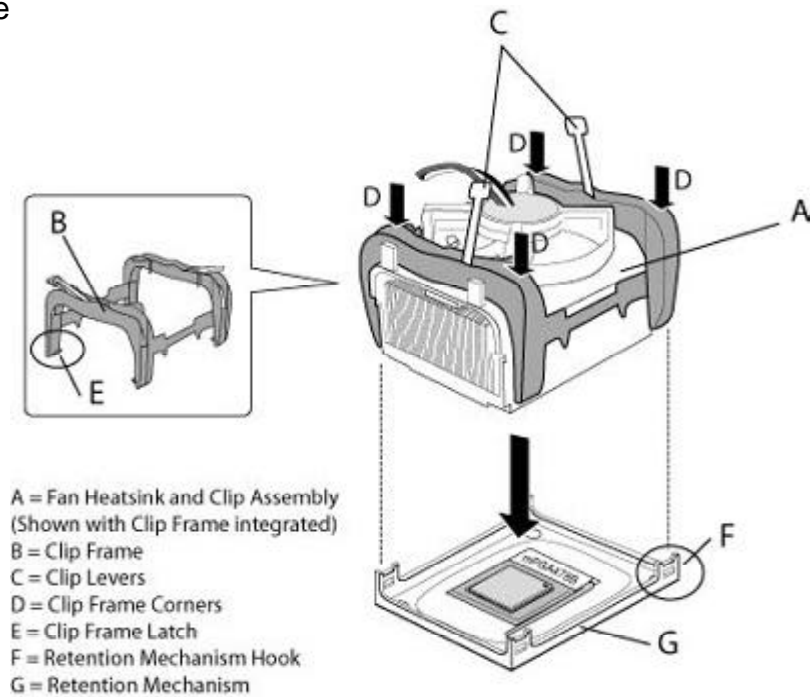
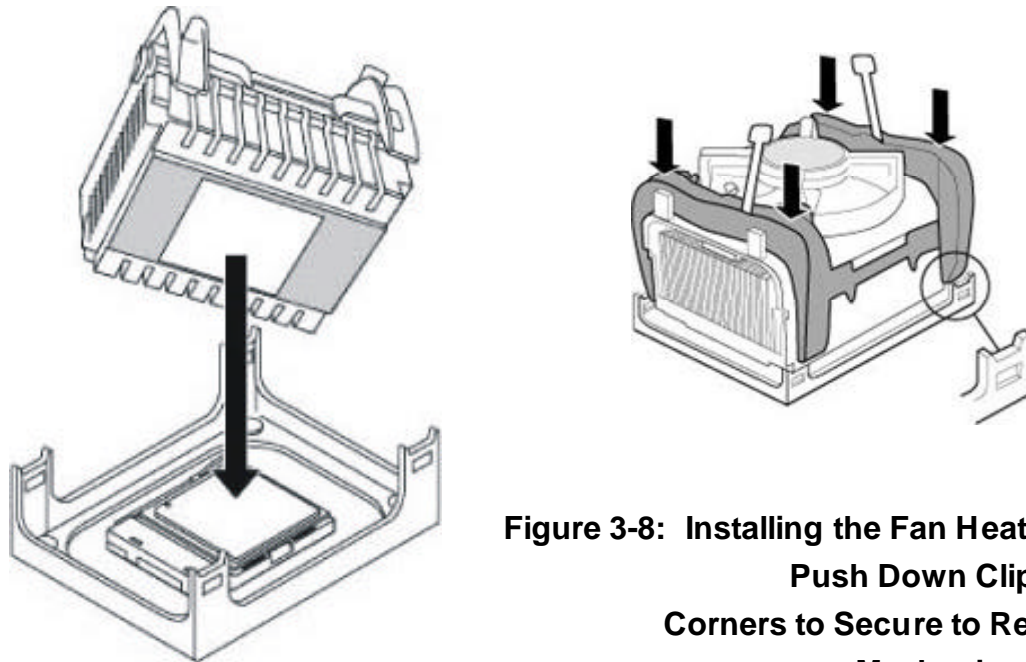

Figure 3-6: Installing the Fan Heatsink (1)
Figure 3-8: Installing the Fan Heatsink (3)
2. Align the fan heatsink and clip assembly (A in Figure 3-6) with the retention mechanism (the fan heatsink is symmetrical) and place it on the processor (as shown in Figure 3-7). Allow the heatsink base to compress (without rotating or twisting) the thermal interface material over the surface of the processor's integrated heat spreader.
3. With the clip levers (C in Figure 3-6) in the upward position, push down on all four clip frame corners (D in Figure 3-6) to secure the clip frame latches (E in Figure 3-6) to the retention mechanism hooks (F in Figure 3-6), as shown in Figure 3-8.
Note: Make sure the processor fan cable is free from any obstruction and is not trapped under clip frame (B in Figure 3-6).